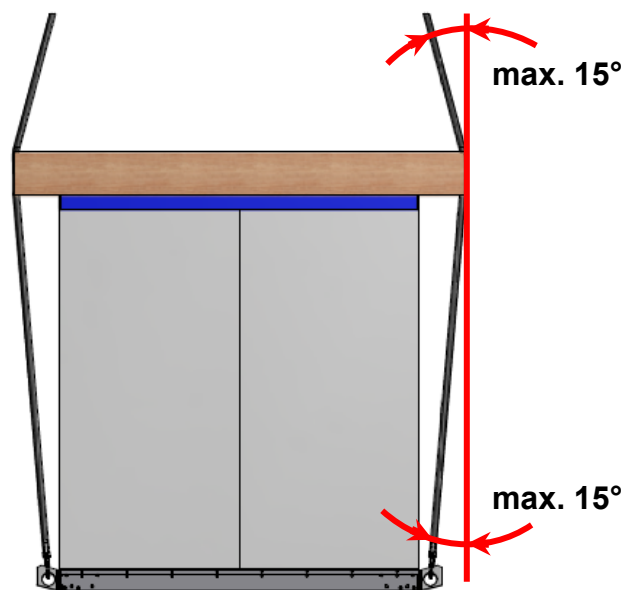

Figure 7: Permitted angle for load carrying equipment guidance
- The length of the supporting means must allow a favourable course. The load carrying equipment is not permitted to exceed an angle of maximum 15 ° to the vertical and must be spread apart to avoid damage to the casing, refer to **Figure 7**.